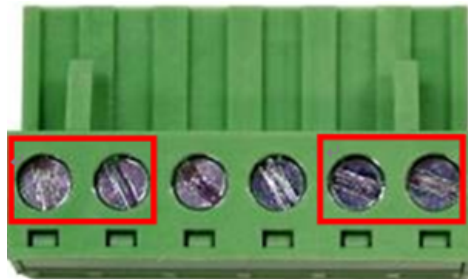

Figure 2.12 - Power Terminal Block
2. Tighten the wire-clamp screws to prevent the wires from loosening, as shown below in Figure 2.12.